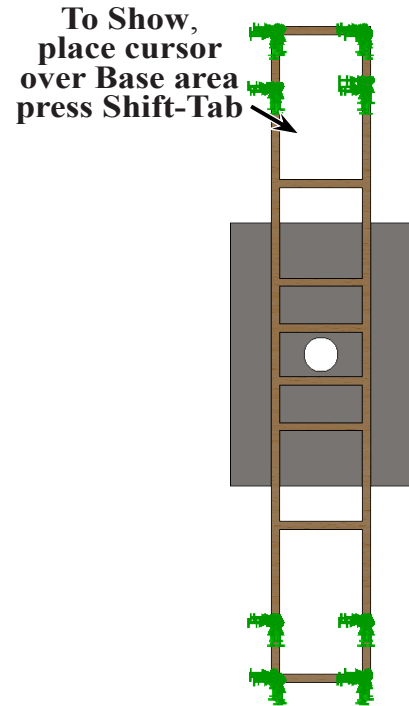

Fig. 13
Step 5. **Show Base Part.** To show, move cursor over the area containing Base and press **Shift-Tab** on keyboard, **Fig. 13**.